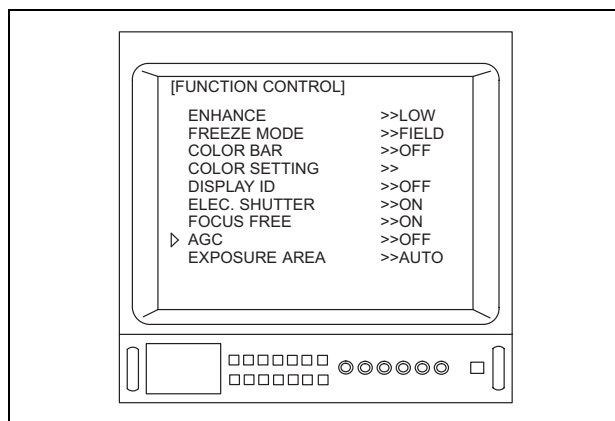

Figure 5.32
4. Depress the menu switches “◀” or “▶”, or the “↑/↓/←/→” key on the keyboard to move the arrow “▷” to “AGC” (see Figure 5.32).
- When the OTV-S7V is connected to the ENF-V, CYF-V/VA or HYF-V, “ELEC.SHUTTER” and “EXPOSURE AREA” shown in Figures 5.32 and/or 5.33 are not displayed.
- When the OTV-S7V is connected to the LTF-V3 or A500**A series, “EXPOSURE AREA” shown in Figures 5.32 and/or 5.33 is not displayed.
- When the OTV-S7V is connected to a camera head without the focus free function, or to a videoscope, “FOCUS FREE” shown in Figures 5.32 and/or 5.33 is not displayed.
- Depending upon the OTV-S7V’s settings, the menus shown in Figures 5.32 and/or 5.33 may appear different from those displayed on the video monitor.